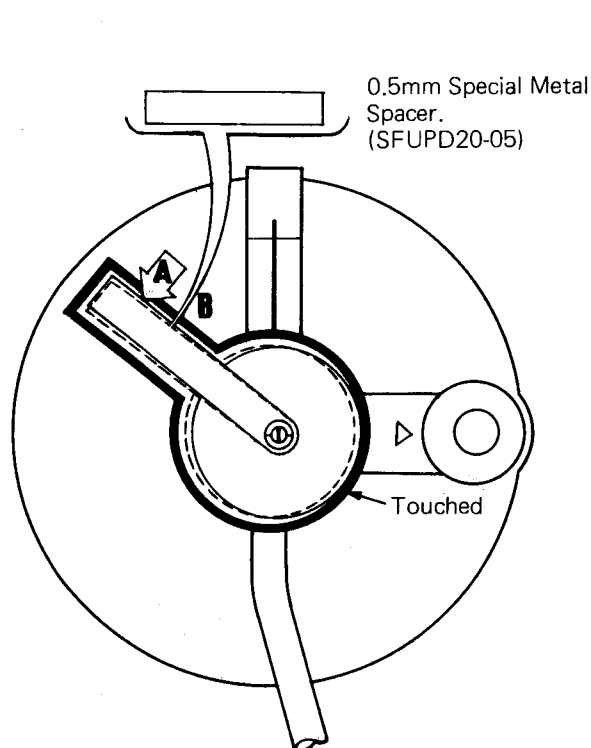

Fig. 3
Firstly, please push the points (A) as an arrow direction by hand, so about 0.5mm space will come out at point (B). Then insert the 0.5mm special metal spacer to that space as show in fig. 3. In that time, please be careful the scratch of pick-up pectangular pole because of prastic.